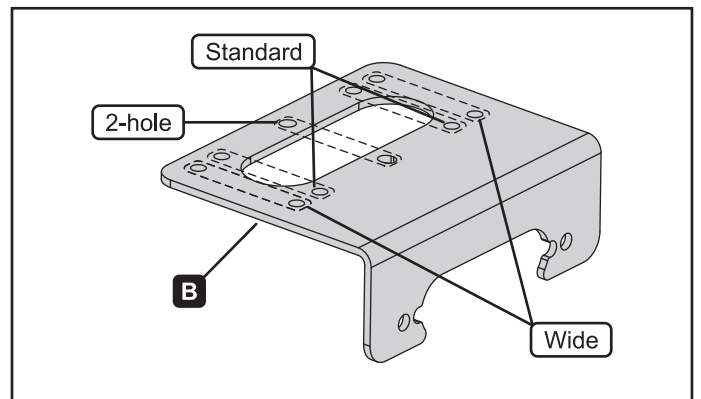

Figure 3. Winch hole configurations
2. Use figure 3 to determine which holes to use with your winch hardware.